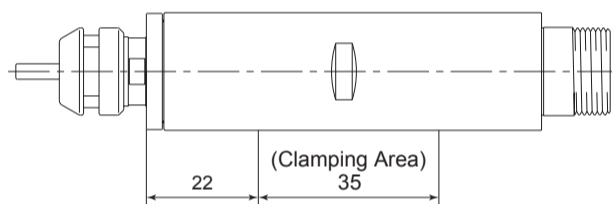

Fig. 6
- When mounting the spindle, refer to the Clamping Area etched on the spindle. ( Fig. 6)